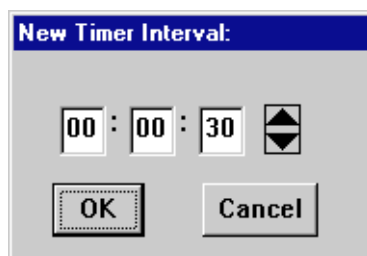

Figure 5-3. New Timer Interval Text Box
1. Click on the clock symbol (🕒) next to the **Interval** text box. The New Timer Interval text box, Figure 5-3, opens.